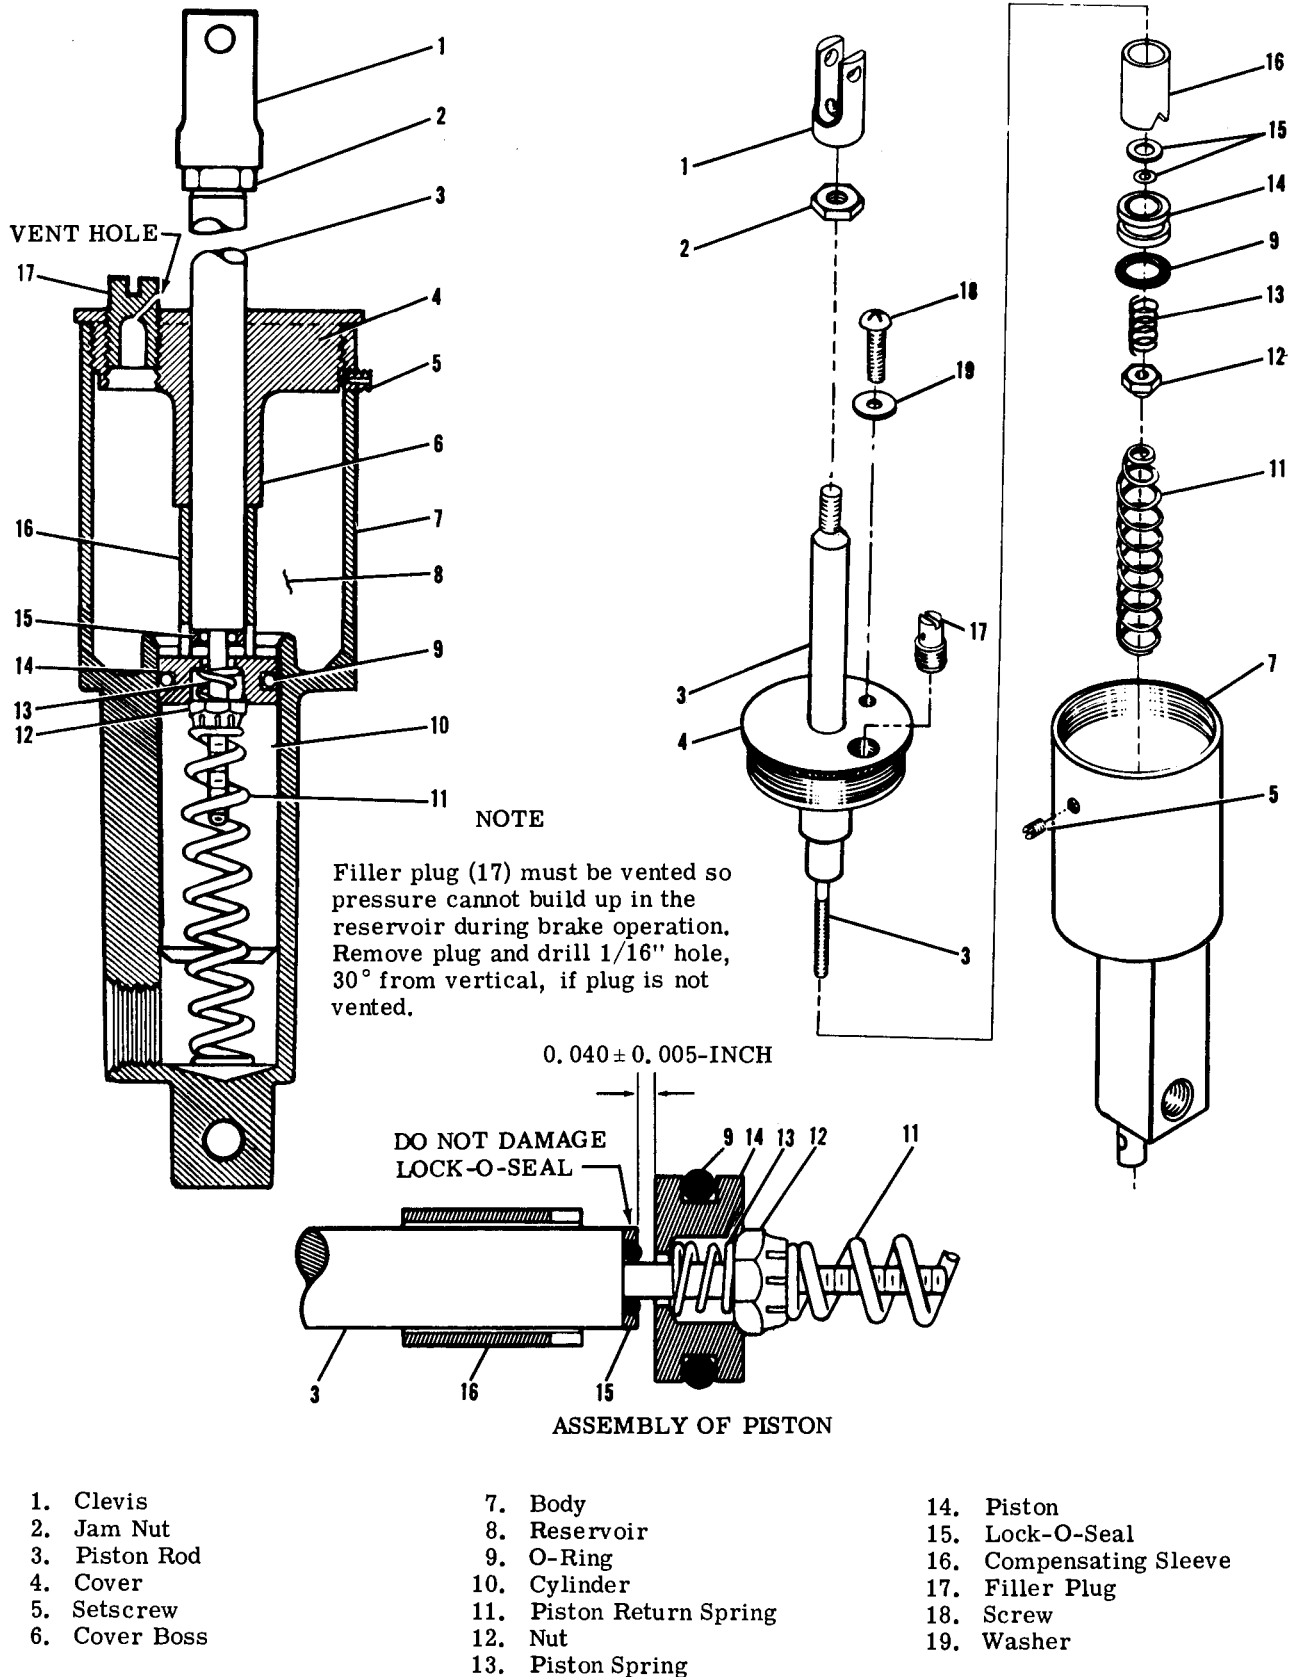

Figure 5-12. Brake Master Cylinder
**5-61. BRAKE MASTER CYLINDER DISASSEMBLY.** (Refer to figure 5-12.)
- a. Unscrew clevis (1) and jamb nut (2).
- b. Remove screw (18) and washer (19).
- c. Remove filler plug (17) and setscrew (5).
- d. Unscrew cover (4) and remove up over piston rod (3).
- e. Remove piston rod (3) and compensating sleeve (16).
- f. Slide sleeve (16) up over rod (3).
- g. Unscrew nut (12) from threads of piston rod (3).
- h. Remove spring (13) and O-ring (9) from piston (14).
- i. Remove Lock-O-Seal (15).
**5-62. BRAKE MASTER CYLINDER INSPECTION AND REPAIR.** (Refer to figure 5-12.) Repair is limited to installation of new parts, cleaning and adjusting. (Refer to reassembly paragraph for adjustment.) Use clean hydraulic fluid (MIL-H-5606) as a lubricant during reassembly of the cylinders. Inspect Lock-O-Seal (Parker Seal Co. P/N 800-001-6) and replace if damaged. Replace all O-rings. Filler plug (17) must be vented so pressure cannot build up in the reservoir during brake operation. Remove plug and drill 1/16-inch hole, 30° from vertical, if plug is not vented.
**5-63. BRAKE MASTER CYLINDER REASSEMBLY.** (Refer to figure 5-12.)
- a. Install Lock-O-Seal (15) at bottom of piston rod (3).
- b. Install O-ring (9) in groove in piston (14); insert piston spring (13) into piston, and slide assembly up on bottom threaded portion of piston rod (3).
- c. Run nut (12) up threads to spring (13). Tighten nut (12) enough to obtain 0.040±0.005-inch clearance between top of piston and bottom of Lock-O-Seal, as shown in the figure.
- d. Install piston return spring (11) into cylinder (10) portion of body-(7).
- e. Install piston rod (3) end through spring (11).
- f. Slide compensating sleeve (16) over rod (3).
- g. Install cover (4), washer (19) and screw (18).
- h. Install jamb nut (2) and clevis (1).
- i. Install filler plug (17), making sure vent hole is open.
- j. Install setscrew (5).